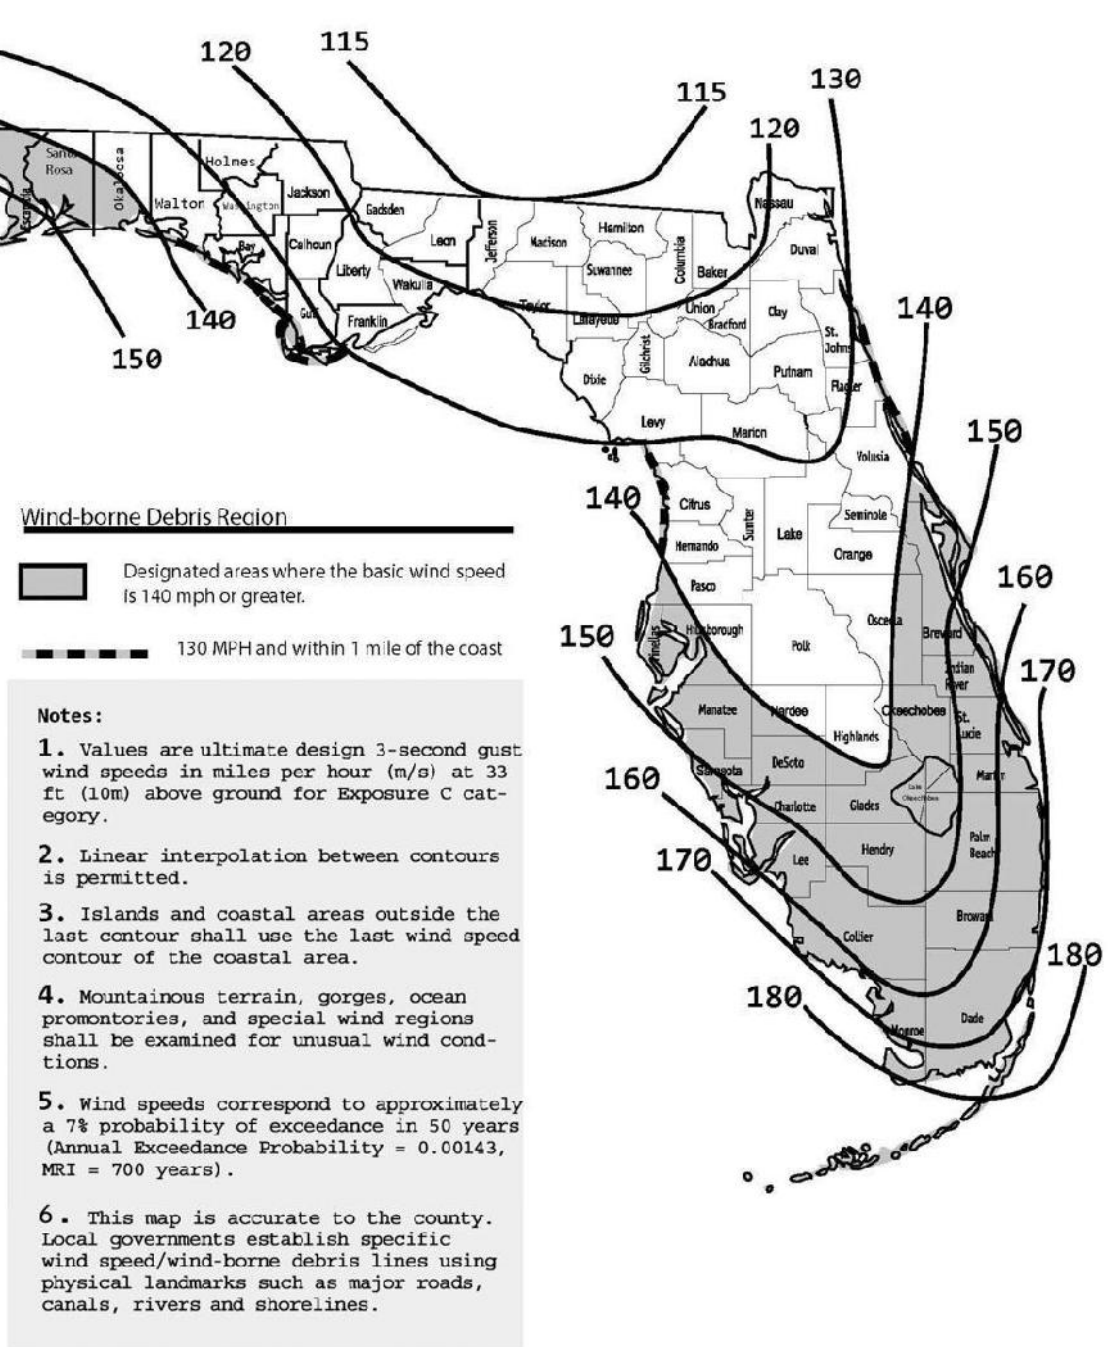

FIGURE R301.2(4) ULTIMATE DESIGN WIND SPEEDS V_{ult}
d. See Figure R301.2(7) for location of zones.
ASPHALT SHINGLES SHALL BE CLASSIFIED IN ACCORDANCE WITH ASTM D3161, TAS 107 OR ASTM D7158 TO RESIST THE BASIC WIND SPEED PER FIGURE R301.2(4). SHINGLES CLASSIFIED AS ASTM D3161 CLASS D OR CLASSIFIED AS ASTM D7158 CLASS G ARE ACCEPTABLE FOR USE WHERE VASD IS EQUAL TO OR LESS THAN 100 MPH. SHINGLES CLASSIFIED AS ASTM D3161 CLASS F, TAS 107 OR ASTM D7158 CLASS H ARE ACCEPTABLE FOR USE FOR ALL WIND SPEEDS. ASPHALT SHINGLE WRAPPERS SHALL BE LABELED TO INDICATE COMPLIANCE WITH ONE OF THE REQUIRED CLASSIFICATIONS, AS SHOWN IN TABLE R905.2.6.1.
MAXIMUM BASIC WIND SPEED, VULT, VASD AS DETERMINED IN ACCORDANCE WITH ASTM D7158 OR ASTM D3161 FROM FIGURE R301.2(4)
In regions where the ultimate design wind speed, Vult, from Figure R301.2(4) equals or exceeds 115 miles per hour (51 m/s), the design of concrete, masonry, wood and steel buildings for wind loads shall be in accordance with one or more of the following methods:
6. The MAF Guide to Concrete Masonry Residential Construction in High Wind Areas shall be permitted for applicable concrete masonry buildings for a basic wind speed of 130 mph (58 m/s) or less in Exposure B and 110 mph (49 m/s) or less in Exposure C in accordance with Figure R301.2(4) as converted in accordance with R301.2.1.3.